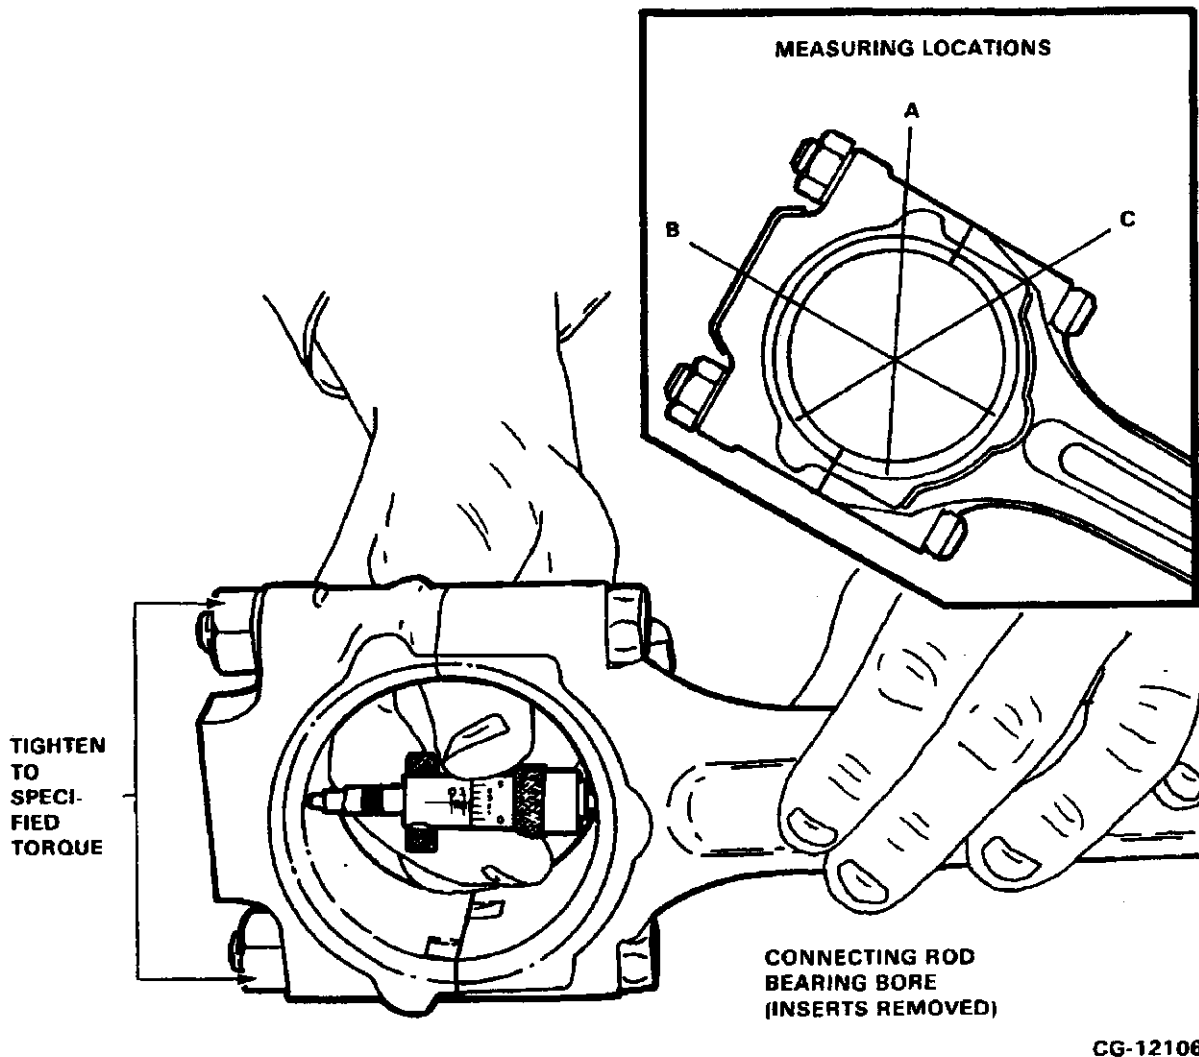

Figure 6.24. Check Bearing Bore Roundness
- b. Use an inside micrometer or a dial bore gauge and measure the connecting rod in three locations as shown in **Figure 6.24**.